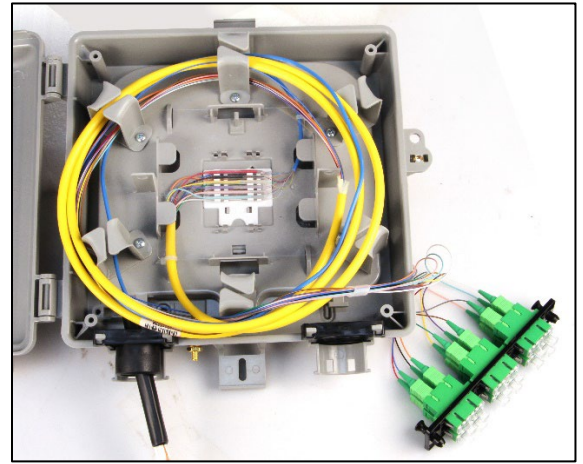

Figure 5
5. Route excess buffer tube through first 4 cable management clips so buffer tube is near fusion splicer (Figure 5)